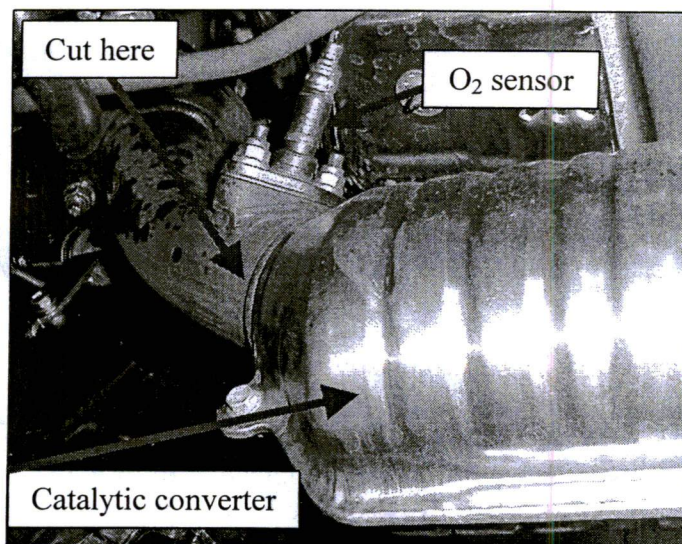

Figure 7
1. Disconnect the wire connector and remove the oxygen sensor (O₂) from the front exhaust pipe (Figure 7).
3. Cut the front exhaust pipe in front of weld (just before the catalytic converter) as shown in Figure 7. This need not be done right now, but must be done before Step 5 on Page 9. The pipe you just cut in front of the catalytic converter will not be reused. Set the catalytic converter to the side for installation later.